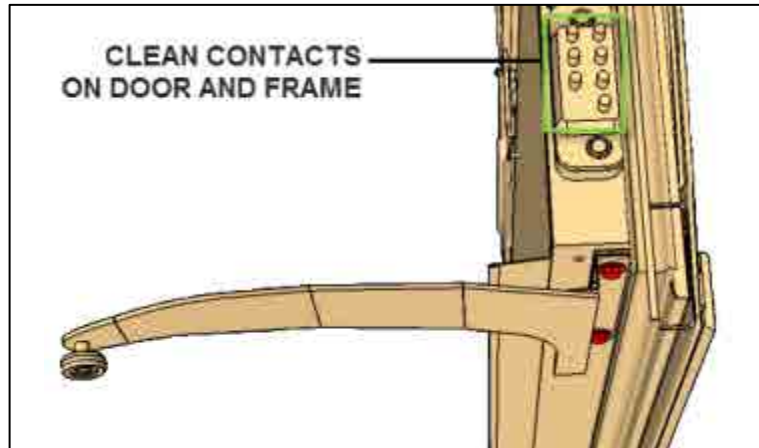

Figure 44
- 64. Clean with contact cleaner. (Figure 44)
- 65. Locate the door lower arm mounting screws. (Figure 44)